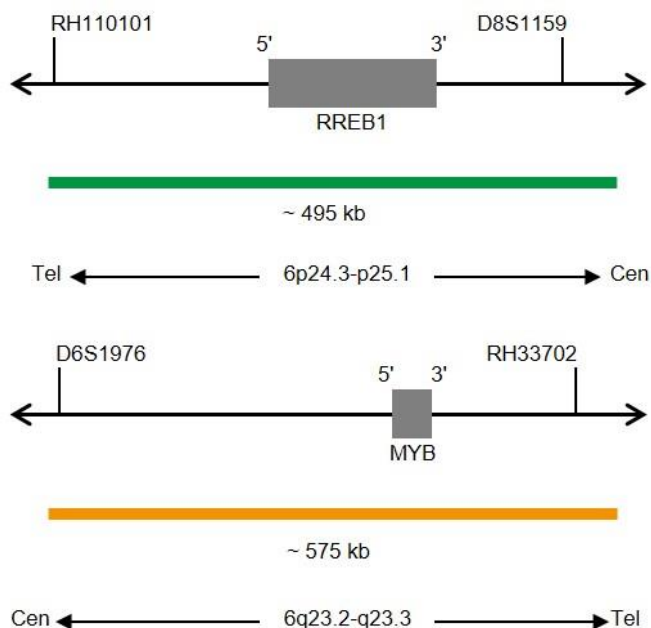

Fig. 1: Top: SPEC RREB1 Probe map, Bottom: SPEC MYB Probe map (not to scale)
- ZyGreen (excitation 503 nm/emission 528 nm) labeled polynucleotides (~10 ng/ μ l), which target sequences mapping in 6p24.3-p25.1* (chr6:6,913,938-7,406,653) harboring the RREB1 gene region (see Fig. 1).
- ZyOrange (excitation 547 nm/emission 572 nm) labeled polynucleotides (~4.5 ng/ μ l), which target sequences mapping in 6q23.2-q23.3* (chr6:135,141,227-135,715,246) harboring the MYB gene region (see Fig. 1).
- ZyBlue (excitation 418 nm/emission 467 nm) labeled polynucleotides (~12 ng/ μ l), which target sequences mapping in 6p11.1-q11 specific for the alpha satellite centromeric region D6Z1 of chromosome 6 (see Fig. 1).